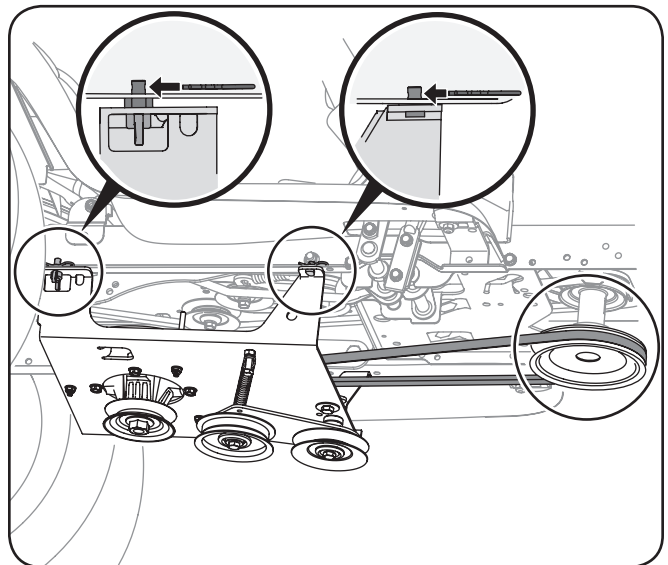

Figure 3-6
4. Insert the weld pins found on the top of the undercarriage assembly into the aligning holes found along the tractor's frame. Secure the undercarriage assembly to the frame with the four hairpin clips removed earlier. See Figure 3-6.
5. Route the upper drive belt around the engine pulley. See Figure 3-6.